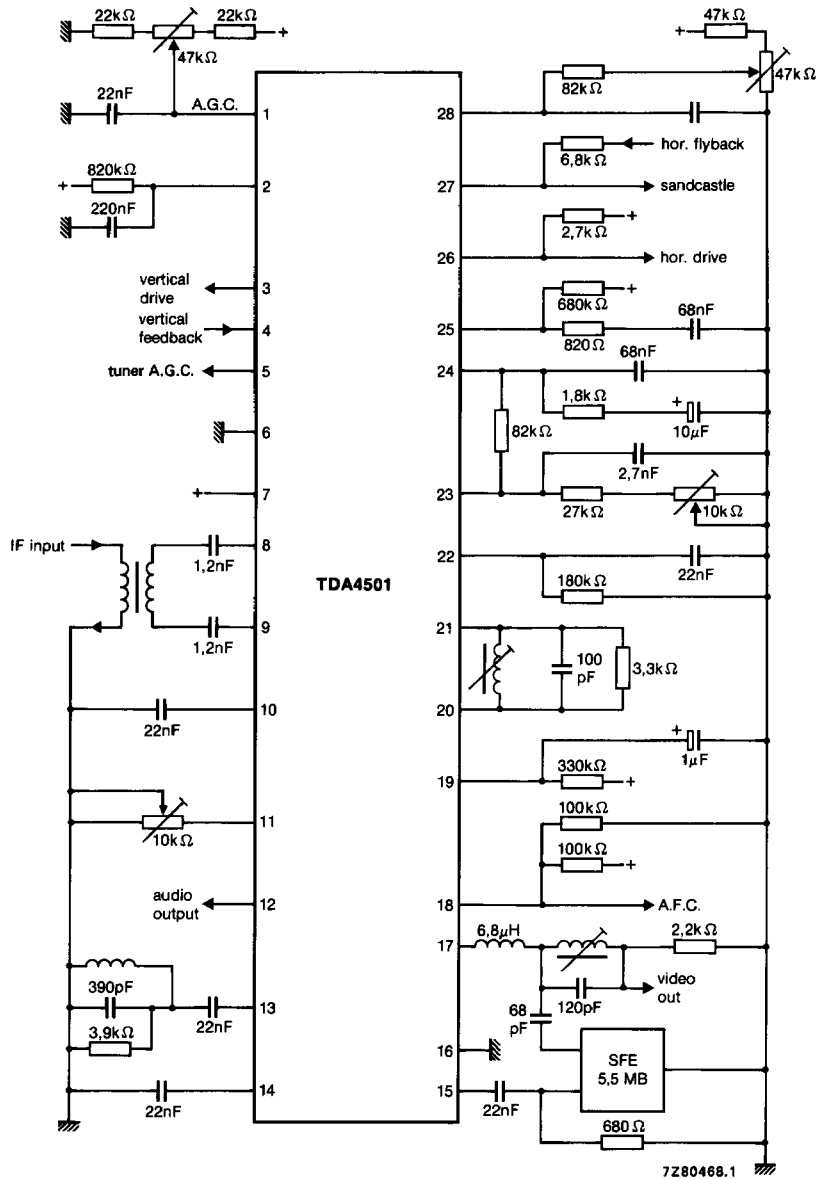

Fig. 2 Application diagram.
4. $V_i(\text{rms}) = 10 \text{ mV}$; see Fig. 2; Q-factor = 36.